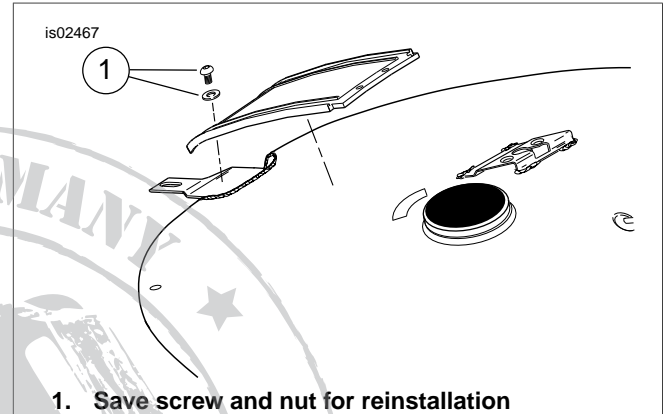

Figure 2. Softail Tank Panel Installs With Original Screw And Nut
4. See Figure 2. Remove lower mounting screw and washer (1) and retain for reinstallation.